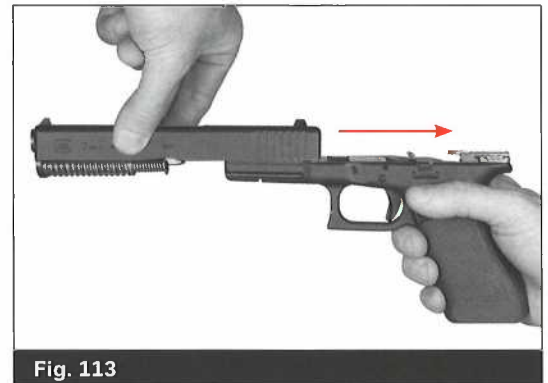

Fig. 113
- Line up the slide grooves with the frame rails and push the slide onto the frame. If you encounter resistance, check again to see if the recoil spring assembly is completely seated, centered and parallel. Rack the slide to ensure the Slide Lock is properly engaged. (Fig. 113/114)